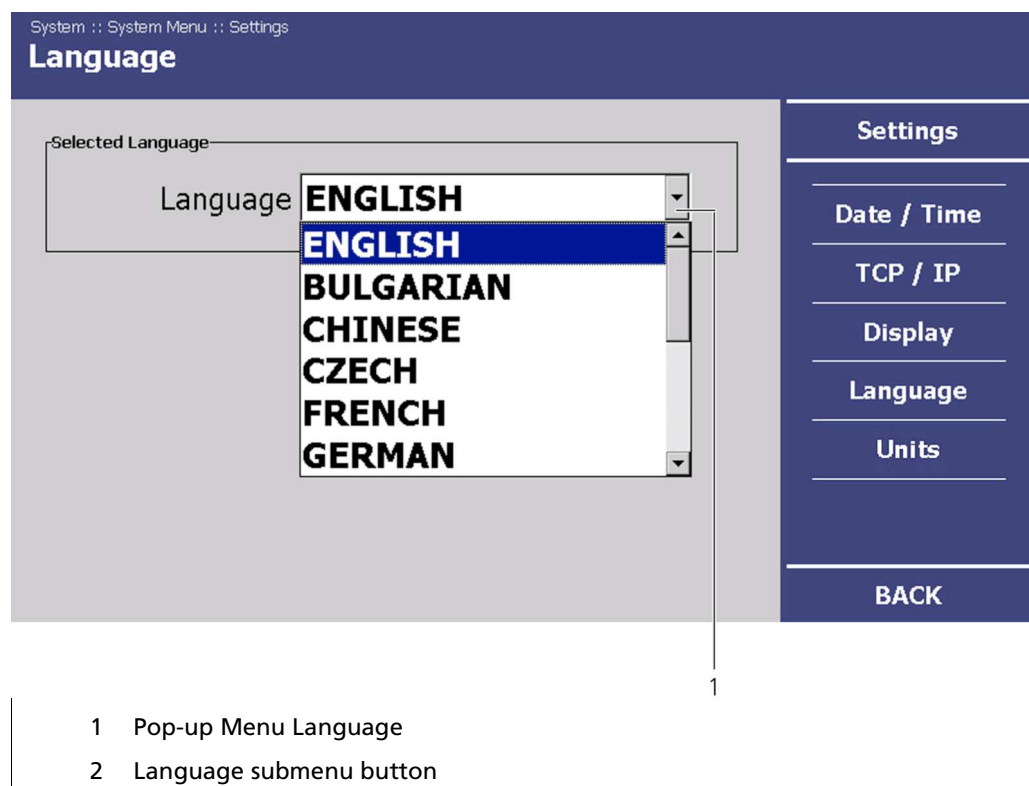

Fig. 31 System Menu. Settings - Language
2. Click on the drop-down menu "Language" (Fig. 31, Pos. 2), to select the desired language.